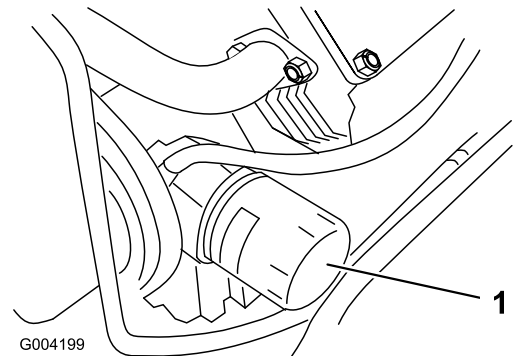

Figure 43
4. Remove the old filter (Figure 43) and wipe the surface of the filter adapter gasket.